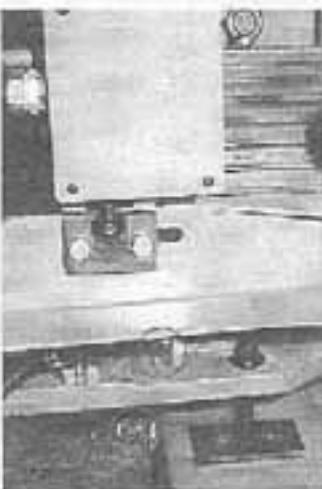
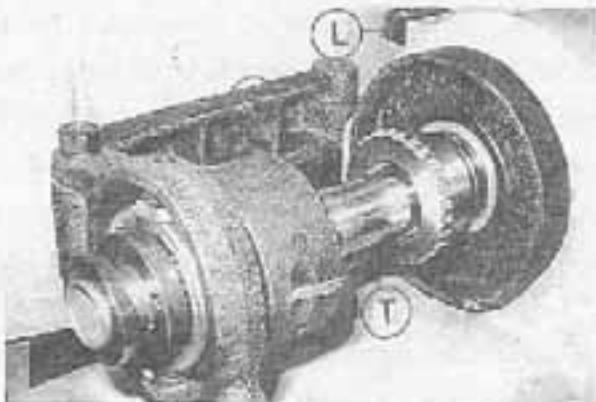

Figure 15 - Belt Adjustment
Figure 17 - Collet Closer Removal
Run spindle at approximately 1000 RPM. Move lever "G" (Figure 4) to center "STOP" position and let the spindle coast to a stop. This is done to equalize belt tension. Move lever "G" (Figure 4) to the high or low position. Losen lock nut "N" (Figure 15) 19mm wrench. Turn adjusting screw "D" (Figure 15) 6mm socket head wrench clockwise to tighten belts. Stop machine and check belt tension, there should be approx. 1" of play in belt.
Running the machine with the collet closer and not having a collet locked in place will damage the collet closer. Remove the collet closer when using chucks, face plates, or spindle nose type fixtures. The collet closer should be removed often for cleaning to prevent loading of chips between collet closer tube and inside of spindle at rear and collet threads. Removal method is . Pull out pin "L" (Figure 17). Slide draw tube out of the spindle. Do not turn the adjusting nut "N" (Figure 17). It is keyed to the spindle. To remove slide it off the end of the spindle. Do not remove collet closer by removing screw "S" (Figure 17), this screw has been adjusted at the factory for proper operation of the collet closer .
Before replacement of the closer, clean inside of the headstock spindle and outside diameter at rear of spindle where Adjusting Nut "N" (Figure 17) is located. Apply a film of light oil on rear of spindle. Do not force Adjusting Nut "N" on spindle. If Adjusting Nut "N" fits too tight, remove and check for burrs or scratches, then replace. Clean collet closer tube inside and out apply a film of light oil on slip surface "T" (Figure 17) of the collet closer tube, replace collet closer and insert Link Pin "L" (Figure 17).
1. Before using collet closer, and any collet or step chuck to be used should be thoroughly cleaned 2. Push the lock Pin "E" (Figure 4) . To engage lock pin, turn spindle by hand till lock pin enters notch to lock. 3. Press the Closer Adjusting Finger "F" (Figure 16) down to the point "P" (Figure 16). 4. Place collet closer tube on collet or step chuck until engaged. Turn both collet closer tube and shell Guard "G" (Figure 15) forward with the left hand, and hold the collet or step chuck with the right hand at the same time. 5. Place a work piece in collet or step chuck. 6. Place lever "L" (Figure 16) to the extreme left fixed position. Turn the Shell Guard "G" (fig.16) toward operator until the work piece is clamped by the collet. 7. Place lever "L" to the right, the released position. Turn Shell Guard "G" toward operator, move the Adjusting Finger "F" advance two notches on the adjusting nut "N" (Figure 17) and close Adjusting Finger "F". 8. Test collet closer's tension on work piece. If the work piece needs additional gripping pressure, press down on the adjusting finger "F" and turn Shell Guard "G" forward and lock. (see figure 16)